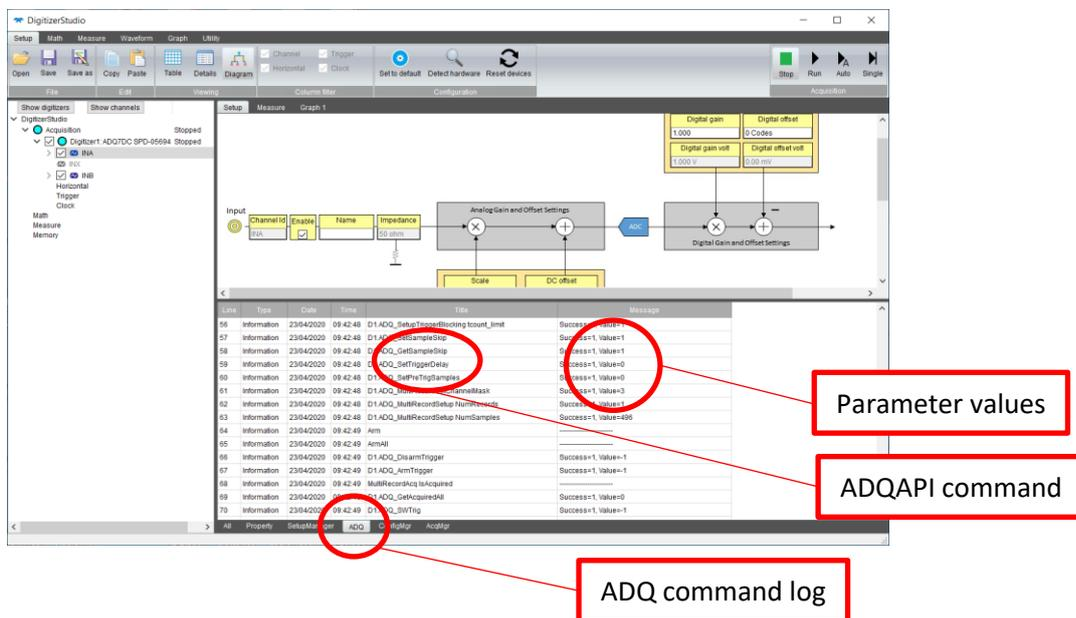
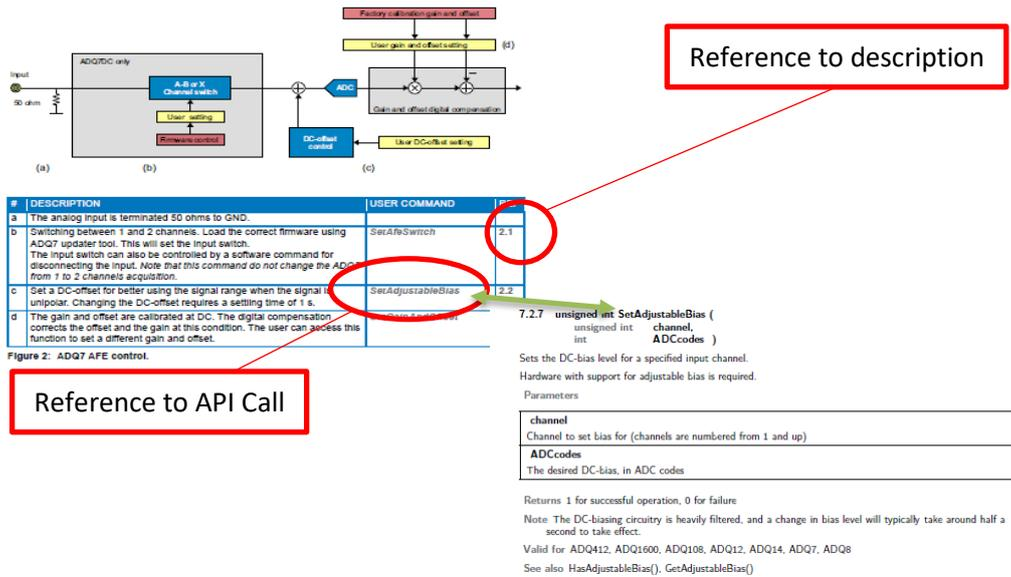

Figure 3 Digitizer Studio command log
Figure 4 Link between ADQ Manual and ADQAPI Reference Guide
2. By looking in the ADQ Command log in digitizer Studio Figure 3
The parameter values for the ADQAPI commands are found in the ADQ log as in Figure 3.
The parameters are listed in the Digitizer Studio ADQ command log, Figure 3. The parameters are described in detail in the 14-1351 ADQAPI Reference Guide, see Figure 4.